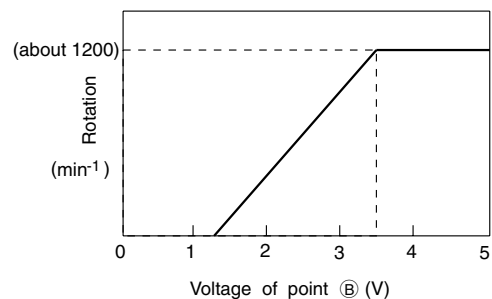

Fig. 6-3
- This pulse changes to analog voltage by R751 and C751 and it is applied to the fan motor as instruction voltage number of rotations. The relationship between the voltage of point ①B and number of rotations becomes as shown in Fig.6-3. (The gap may arise depending on the condition of unit.)
- The feedback pulse of number of rotation is outputted from the fan motor and input to micro computer pin ①④. The frequency of this pulse is  $12/60$  of the number of rotations. (Ex:  $1000\text{min}^{-1} \times 12/60 = 200\text{Hz}$ ) The micro computer observes this frequency and to make it as the instruction number of rotation all the time, adjusts the output pulse width of pin ④⑩.